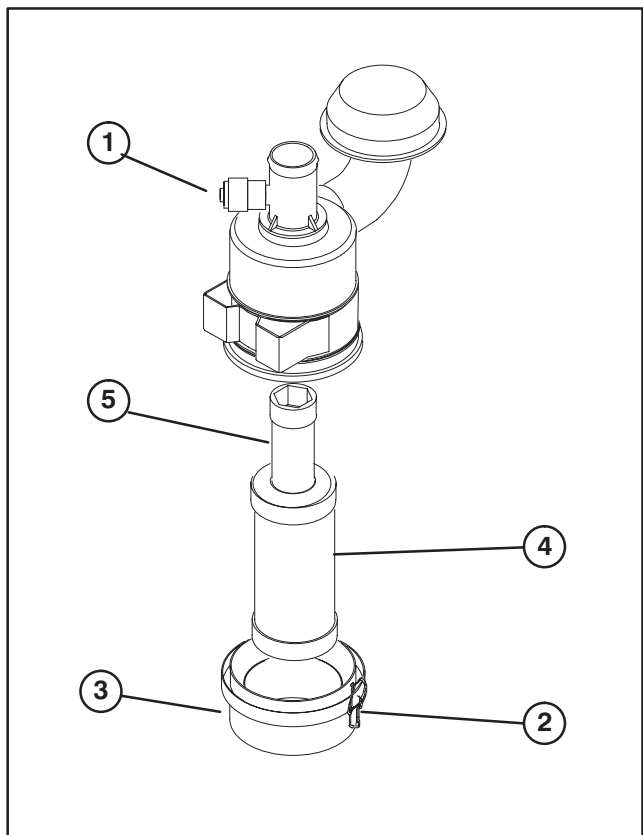

Figure 29
2. Service the air cleaner filters when ever air cleaner indicator (Fig. 29) shows red or every 400 hours (more frequently in extreme dusty or dirty conditions). Do not over service air filter.
2. Gently slide primary filter (Fig. 29) out of air cleaner body to reduce the amount of dust dislodged. Avoid knocking filter against air cleaner body. **Do not remove safety filter.**
8. Reset indicator (Fig. 29) if showing red.